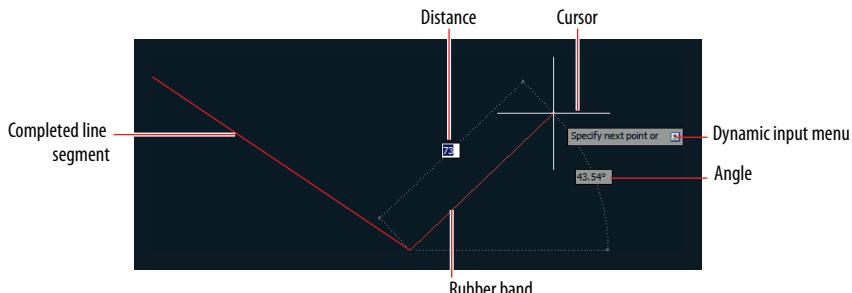

FIGURE 2.7 Drawing a line
3. Type **L** (for `LINE`), and press Enter. Click two arbitrary points to define a line object (see Figure 2.7).